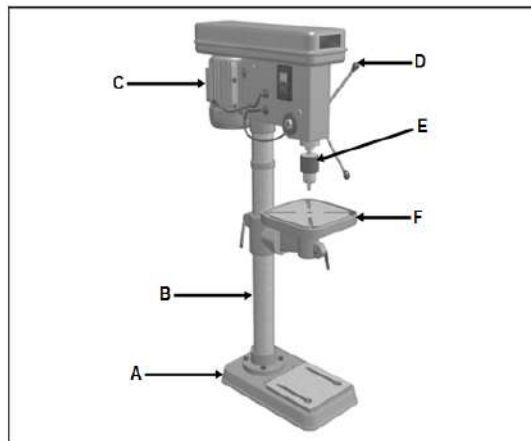

FIGURE 3.1
3.1 FIGURE 3.1 below shows a type of cutting machine. Answer the questions that follow.
- 3.1.1 Identify the machine in FIGURE 3.1 above. (1)